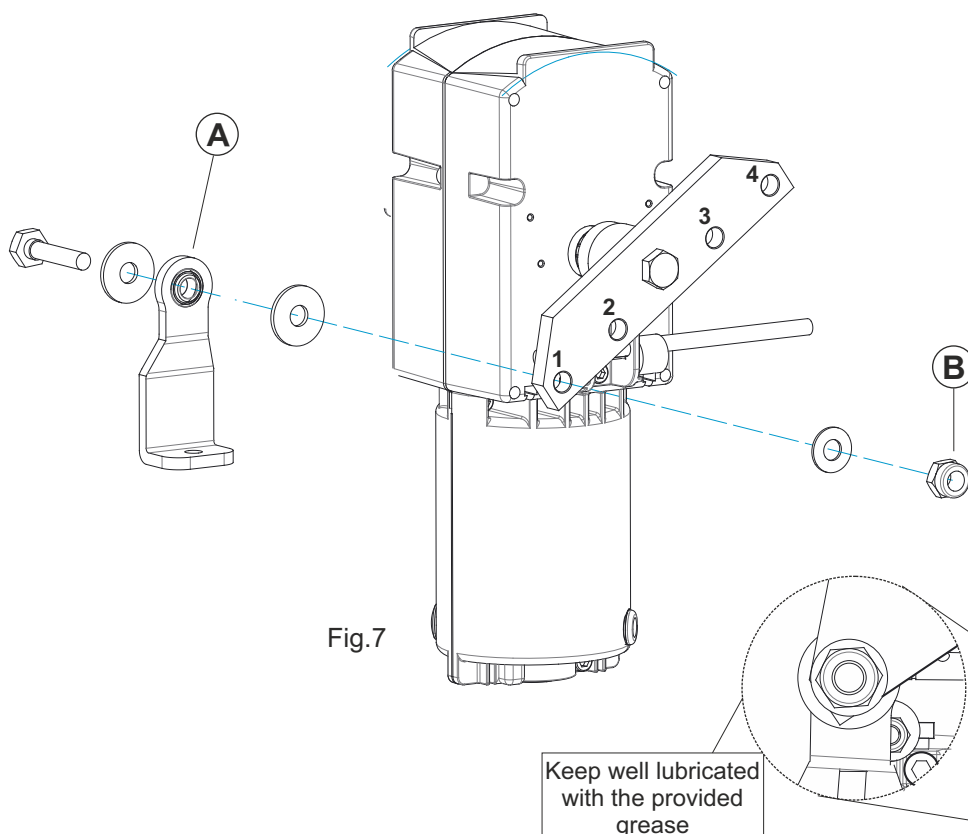

Fig.7
- Fix the bracket for beam fixation (A) into the balance as shown in Fig. 7
- Clamp the nut (B) with a tightening of 40 Nm